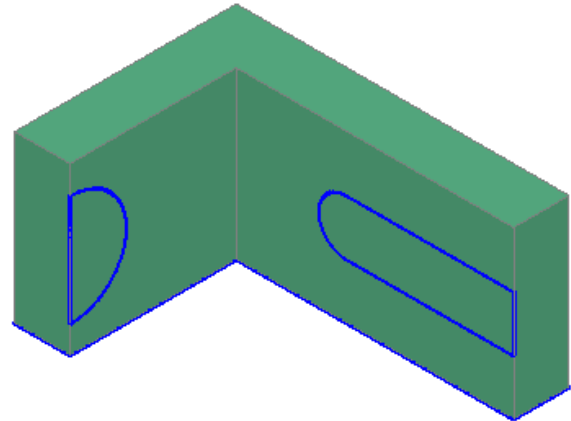

Figure Step 9
Step 9 Using the multiview drawing for the dimensions, draw the lines and arcs in the Front and Right Side of the model. Use the JOIN command to join the plines and ensure that they are closed. (Figure Step 9)